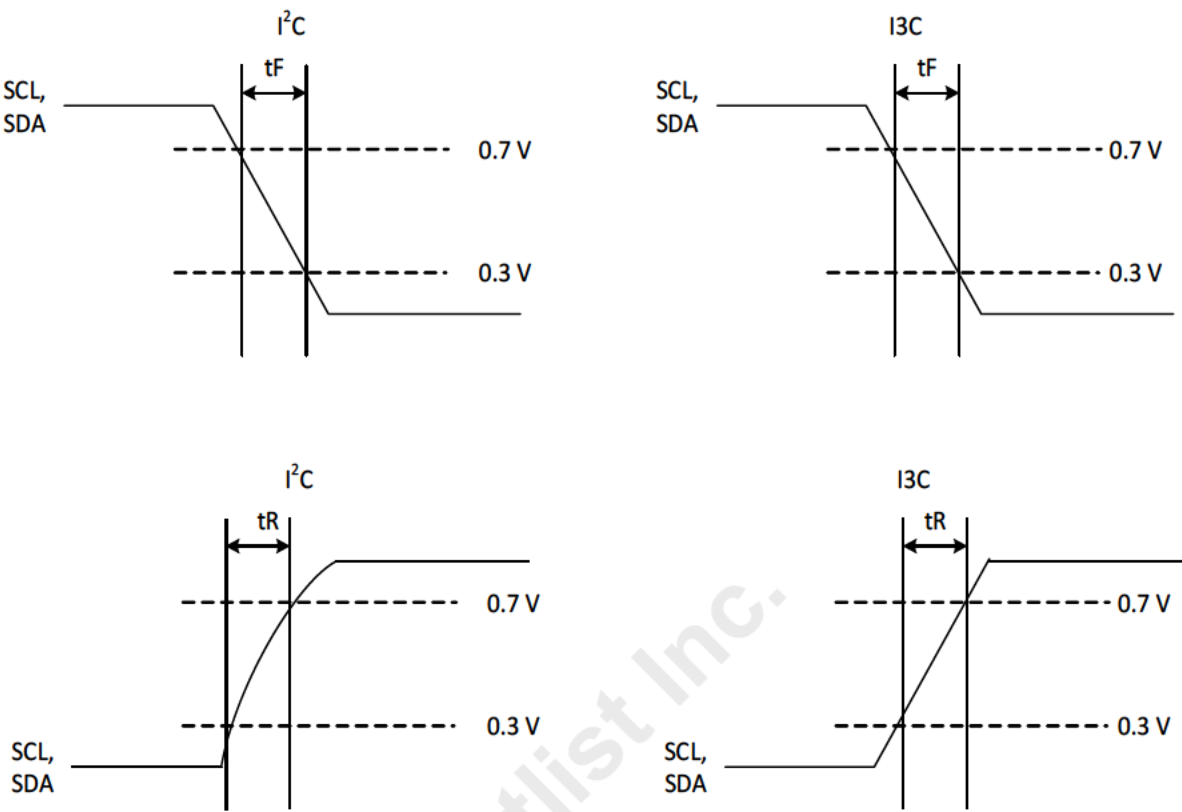

Figure 6 — Rise and Fall Timing Parameter Definition
3. See Figure 6 for voltage threshold definition for rise and fall times.